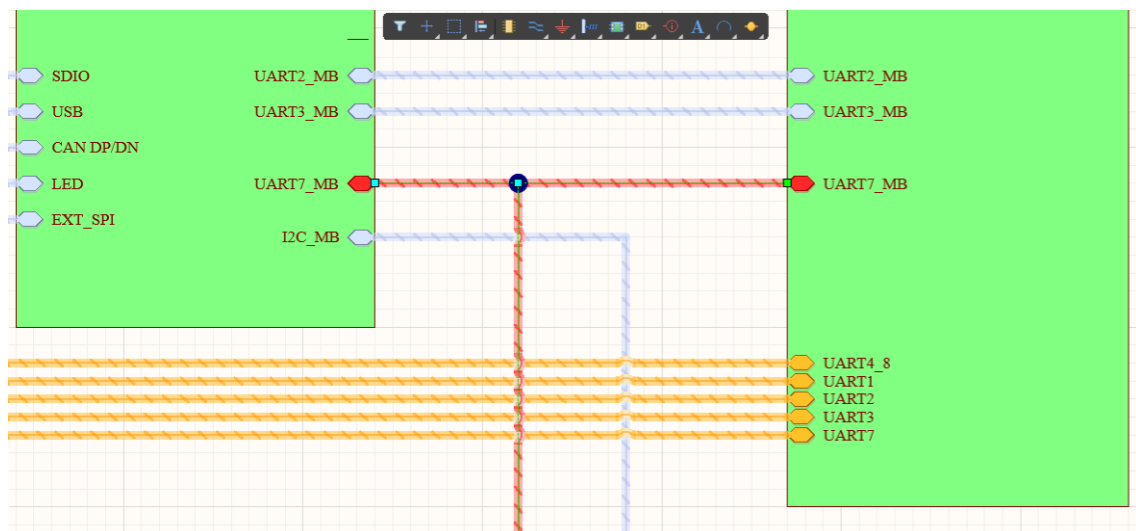

Figure 25. UART7\_MB drawn in red
56. The connected Sheet Entry and Harness will automatically be updated with the new color similar to Figure 25.